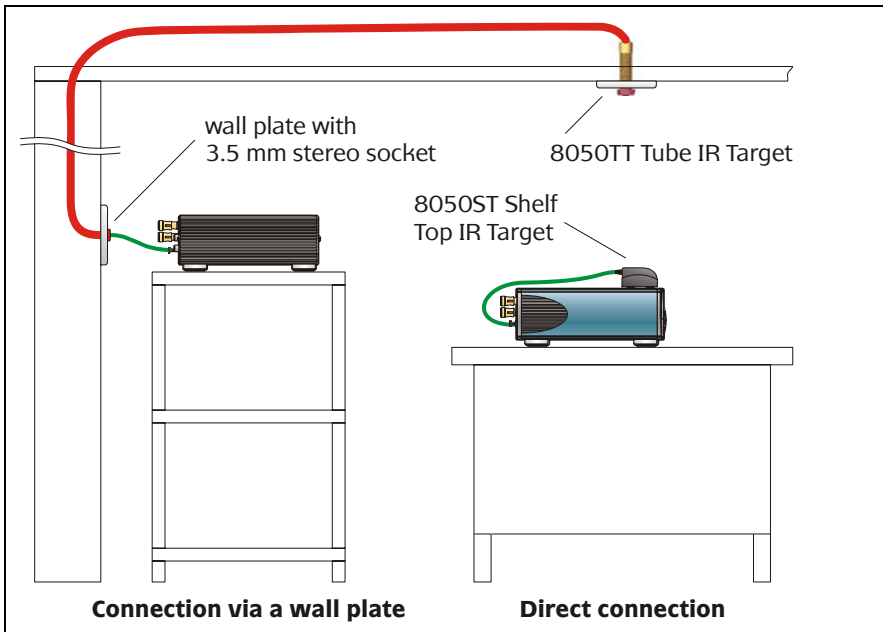

Figure 12 – Connecting an IR target to an Amplifier
An infrared (IR) target can be connected to the green Phoenix socket on the rear of each Amplifier. This allows an IR remote control to operate audio source equipment which is fitted with IR emitters connected to the Matrix Switcher. Figure 12 shows two methods of connecting an IR target to an Amplifier.